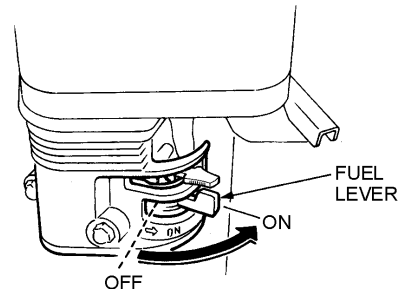

Figure 10. Engine Fuel Lever (ON Position)
3. Place the engine fuel lever to the **ON** position. (Figure 10).